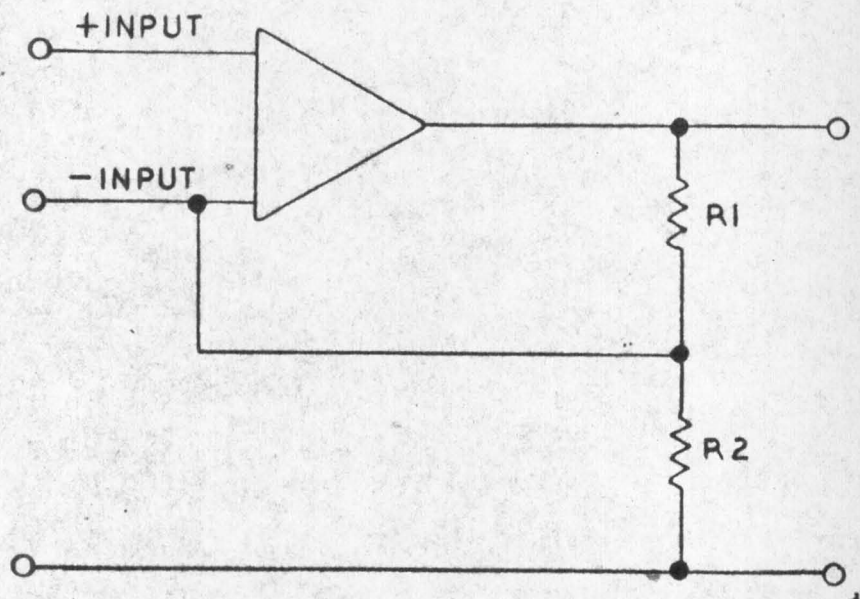

Figure 2.2
2.2 Potentiometric Unity Gain - In this configuration, (see Figure 2.2 with R2 removed) 100% of the output is fed back to the negative input. The loop gain of the amplifier will always tend to keep the signal between the differential inputs very small so that the negative input and the output will follow the signal applied at the positive input.
2.3 Potentiometric Positive Gain - In the configuration (see Figure 2.2), a proportion of the output is fed back to the negative input. The gain established is calculated from the potentiometer divider,